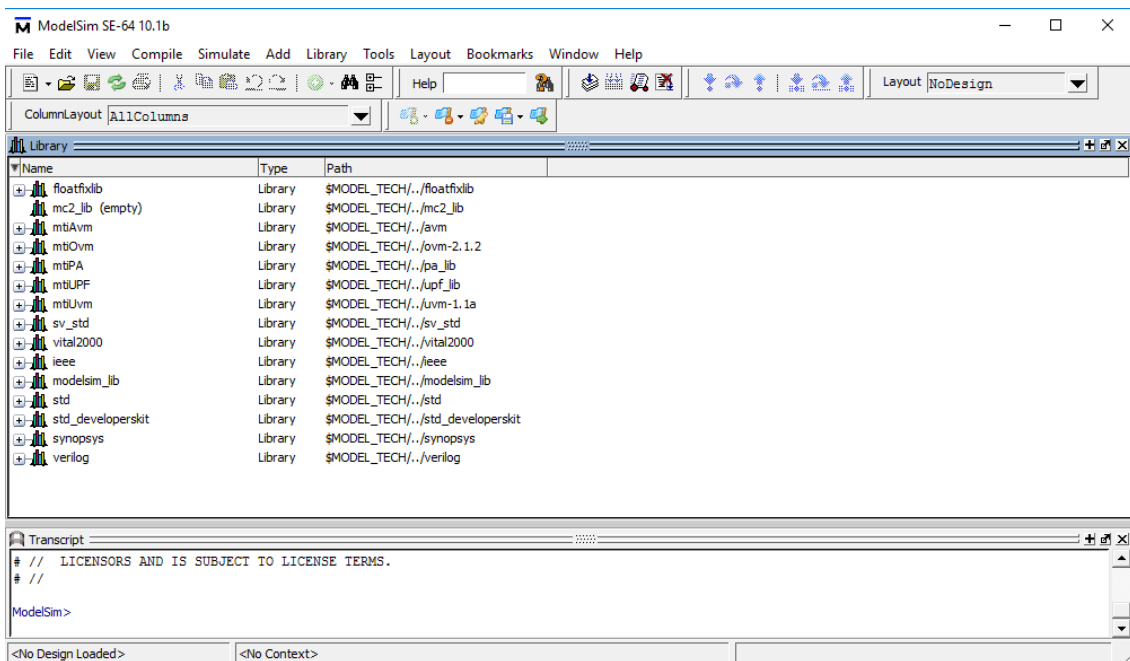

Figure 3. ModelSim start window.
1. Start ModelSim. A window similar to the one in Figure 3 will pop up.